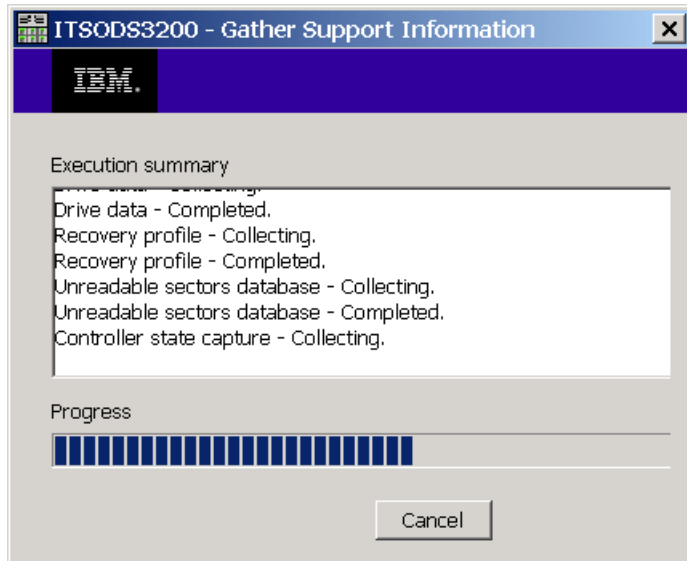

Figure 14-5 Gather Support Information
3. Click **Start** and the system will start to collect all the data and store it to the selected location (Figure 14-5 on page 303). This might take a couple of minutes and it depends on number of hard disks and logical objects configured on the storage subsystem. Also, the